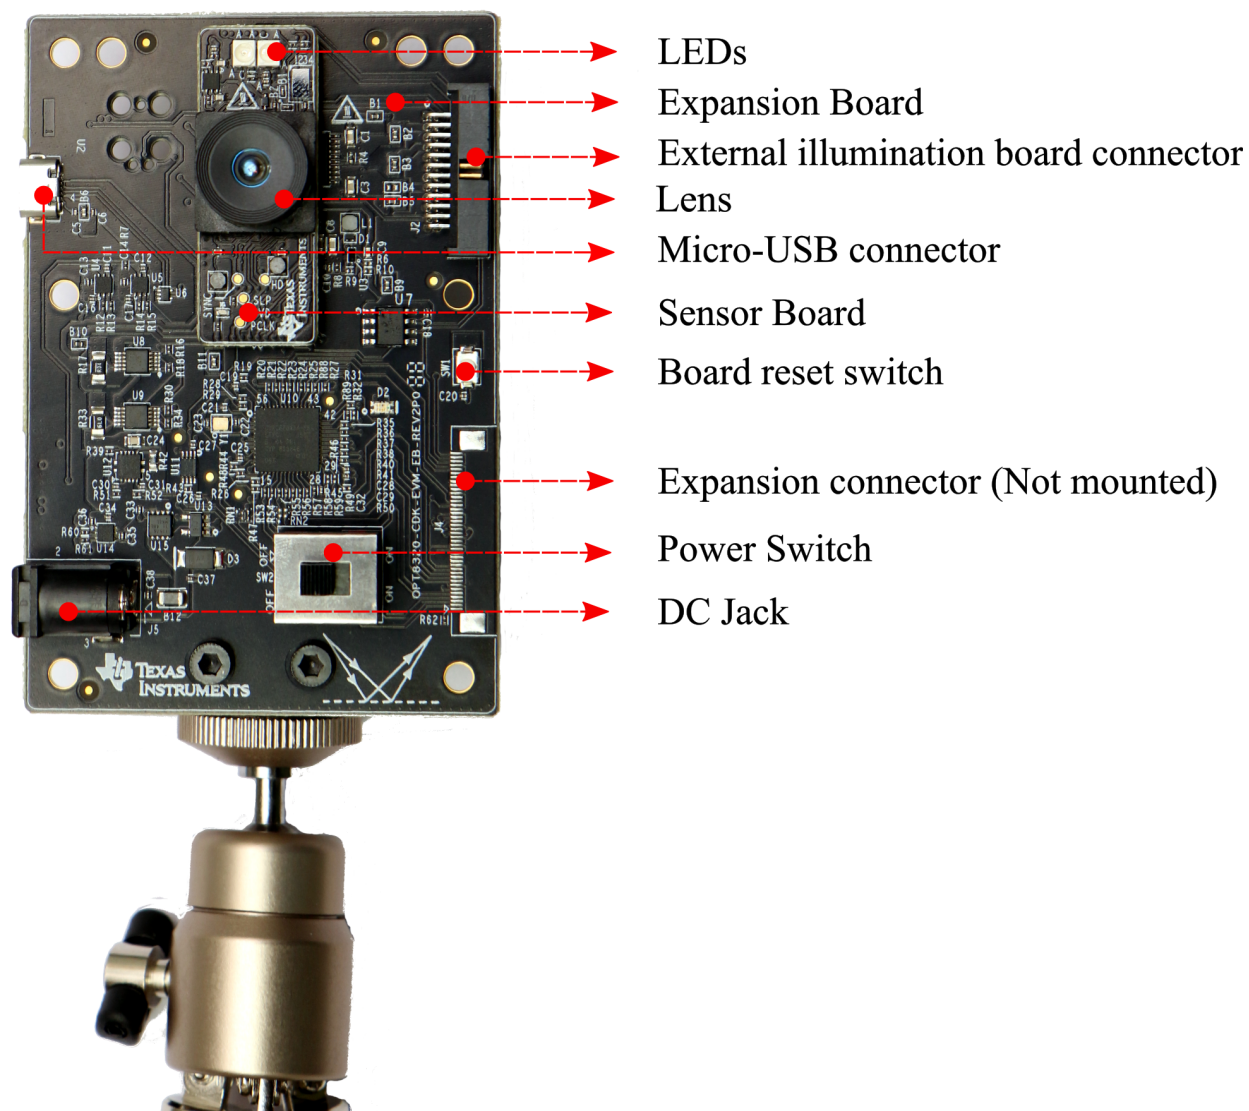

Figure 1. Components of EVM
The OPT8320-CDK-EVM is the official evaluation module for the third-generation single chip 3D Time-of-Flight (3D-ToF) sensor from Texas Instruments. This document describes the kit contents and the basic setup of the EVM hardware and software. The EVM showcases the high-performance QQQVGA resolution 3D Time-of-Flight sensor OPT8320. Figure 1 highlights the important components of the EVM.
2. Verify the EVM is in a fully-assembled state, as shown in Figure 1.